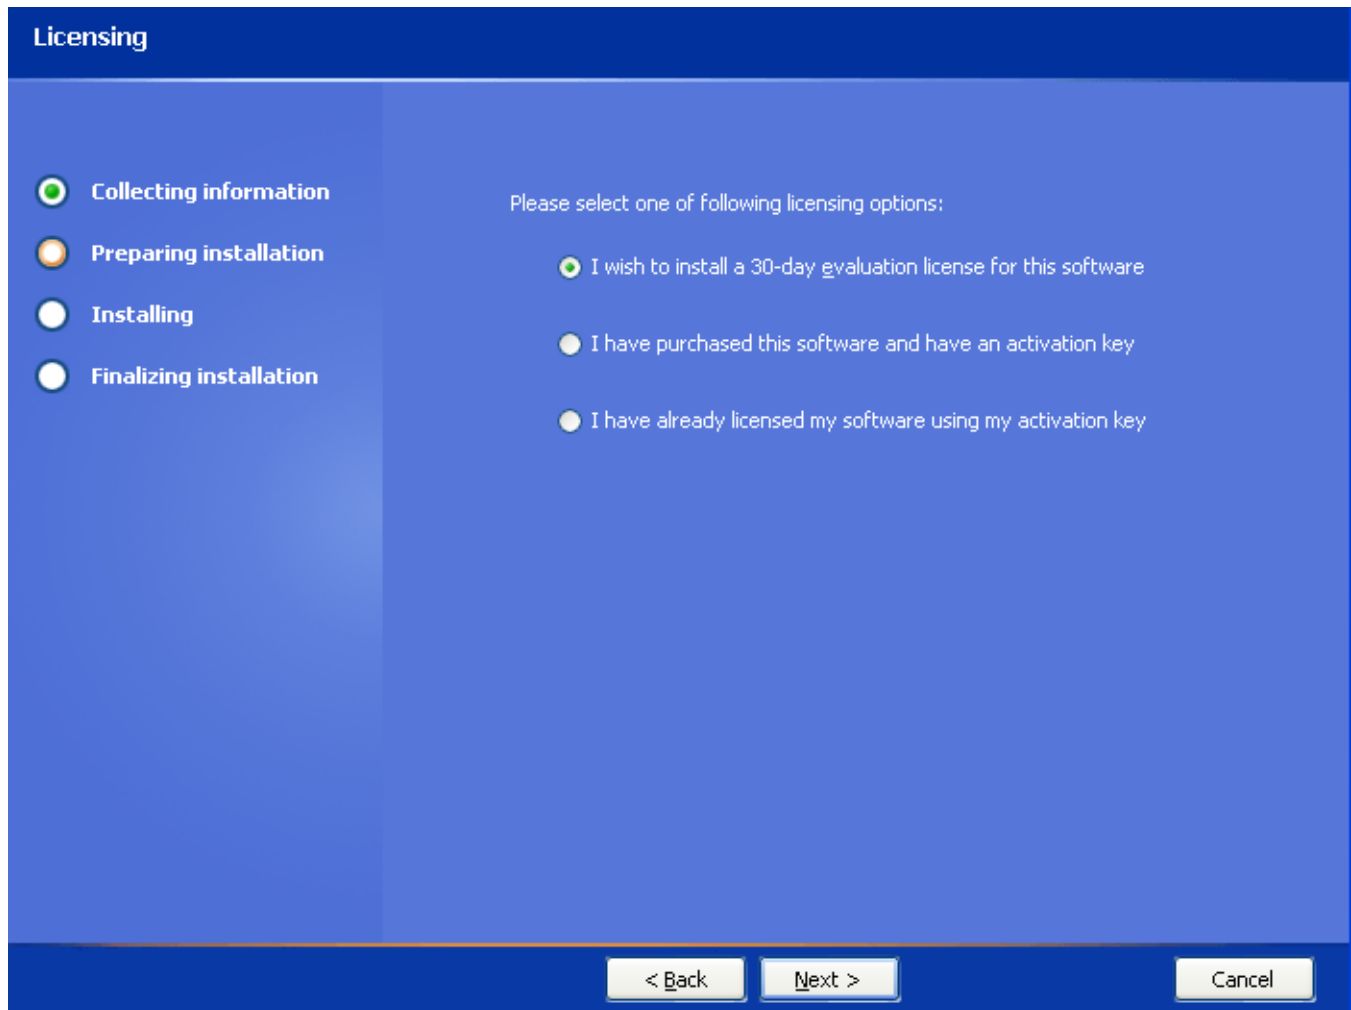

Figure 90 - Licensing Screen
16. Click on the **Next** button to accept the default password. The **Licensing** screen (Figure 90) appears.